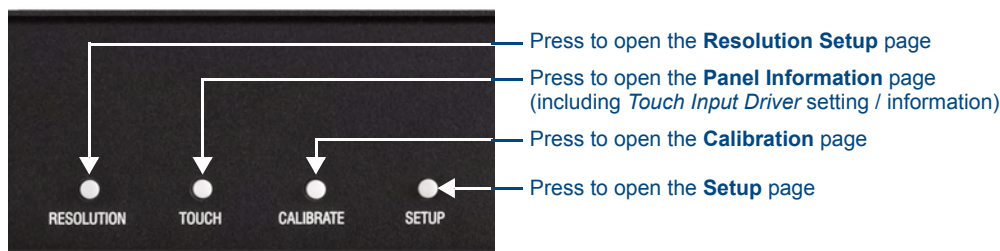

FIG. 29 Configuration Pushbuttons (front panel)
The TPI-PRO/DVI features four configuration pushbuttons (*RESOLUTION*, *TOUCH*, *CALIBRATE* and *SETUP*) on the front panel (FIG. 29). These pushbuttons provide quick access to the main configuration pages for the TPI-PRO/DVI, as described in the following sections:
3. Press the CALIBRATE button on the front panel (see FIG. 29 on page 33) to open the *Calibration* page.